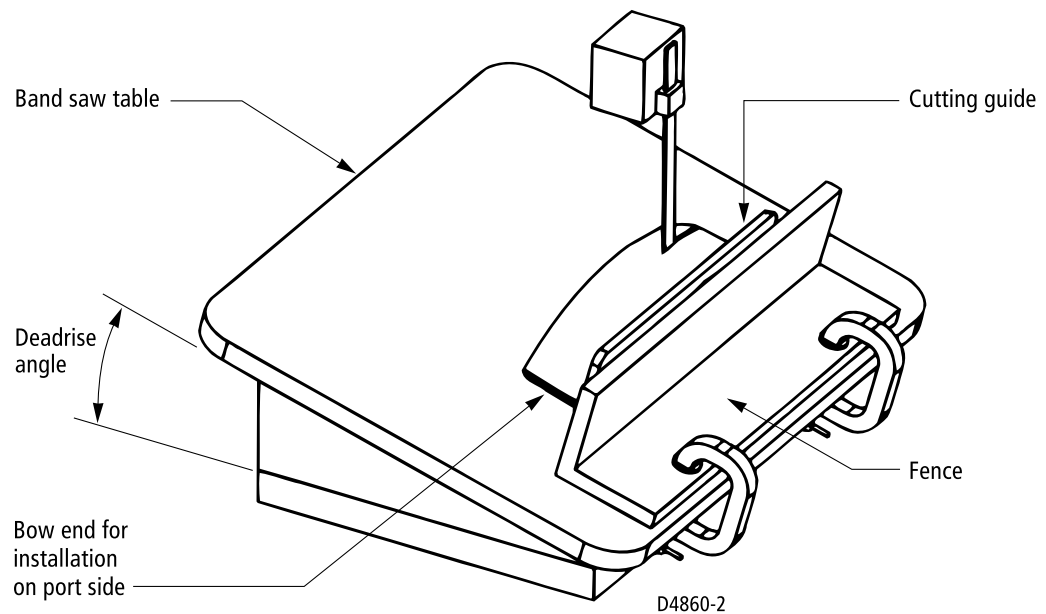

Figure 2-11: Cutting the Fairing
2. Tilt the band saw table to the measured angle and secure the cutting fence (see Figure 2-11).